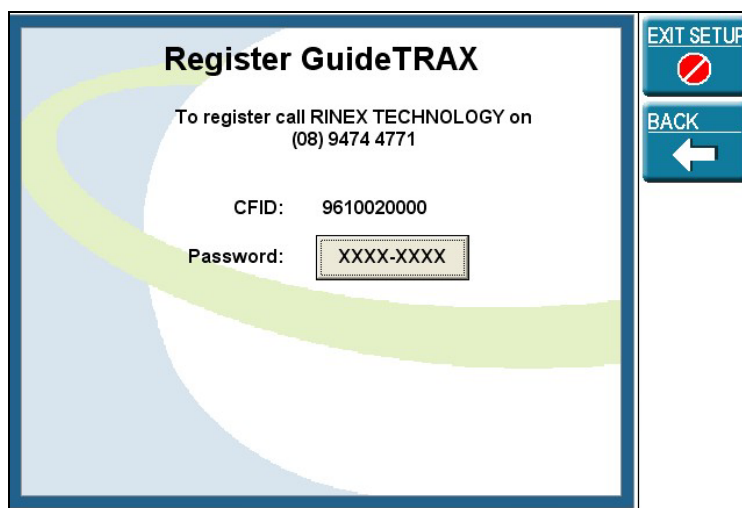

Figure 6-1: Register GuideTRAX Window
- 1) The CFID number displayed on the screen, as shown in Figure 6-1 will need to be quoted when requesting the password from RINEX.